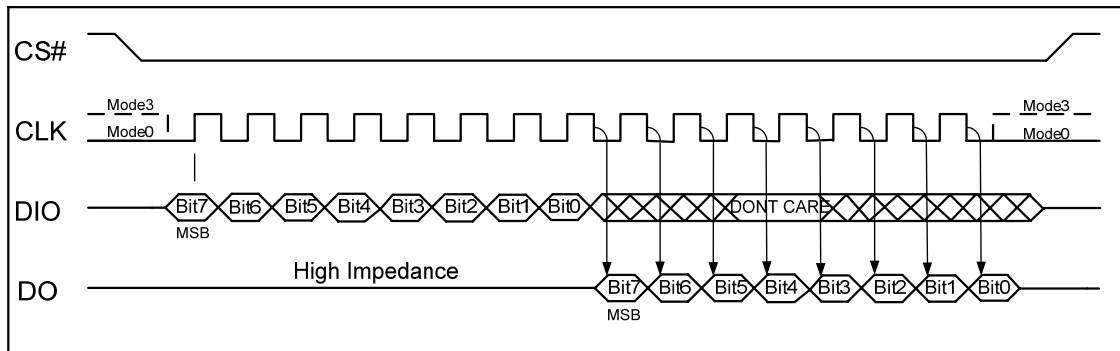

Figure 5, SPI Modes
The N25S40 are accessed through an SPI compatible bus consisting of four signals: Serial Clock (CLK), Chip Select (CS#), Serial Data Input / Output (DIO) and Serial Data Output (DO). Both SPI bus operation Modes 0 (0, 0) and 3 (1, 1) are supported. The primary difference between Mode 0 and Mode 3, as shown in Figure 5, concerns the normal state of the CLK signal when the SPI bus master is in standby and data is not being transferred to the Serial Flash. For Mode 0 the CLK is normally low. For Mode 3 the CLK is normally high. In either case data input on the DIO pin is sampled on the rising edge of the CLK. Data on the DO and DIO pins are clocked out on the falling edge of CLK.